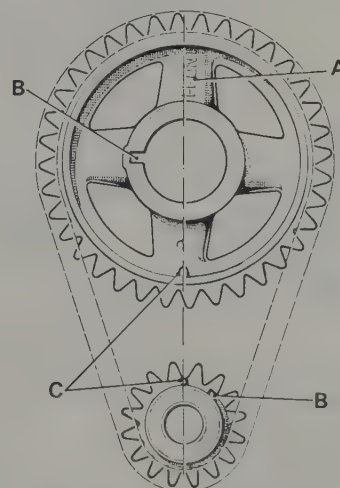

Fig. 1.32. Correct alignment of timing marks and keyways
- 2 Line up the timing marks on the timing wheels and carefully wrap the chain around both wheels keeping the timing marks aligned (Fig. 1.32). Note: camshaft wheel marking 'front' faces.